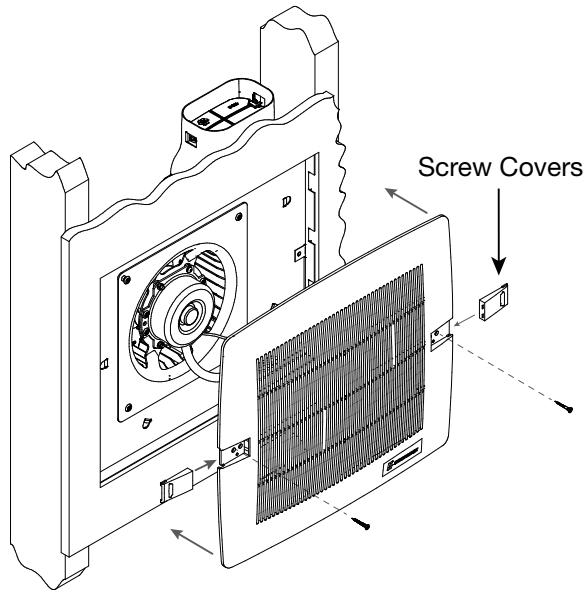

Figure 9
9. Attach the grille after the drywall is installed. Use the two screws provided to screw the grille into the housing. Make sure not over tightening as this will damage the grille. Slide attached screw covers over the attachment screws to conceal. See Figure 9.